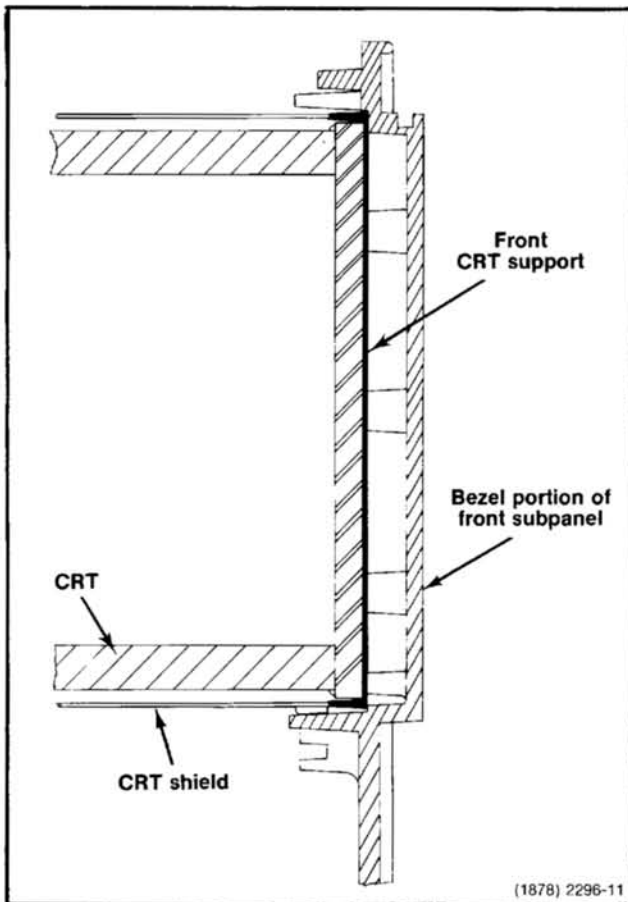

Fig. 5-2. Cross sectional view showing placement position of front crt support, crt shield and crt.
- b. Remove the implosion shield filter (2) and the implosion shield spring (1).
- c. Disconnect the FOCUS extension shaft (3) from the focus potentiometer.
- d. Loosen the black screw (4). Remove the three screws holding the rear panel bracket and remove the rear panel bracket.
- e. Remove the screw (5) holding the horizontal deflection circuit board. Disconnect the two horizontal crt deflection pin leads. Lift the board straight up, disconnecting the square pins at the bottom.
- f. Disconnect the trace rotation coil from the F and I circuit board by removing the two pin connector. Remove the two crt vertical deflection pin leads. Unsnap the anode connector from the circuit board clip (6). Disconnect the crt end (male end) of the anode connector from the remainder of the connector. Momentarily touch the crt end of the anode connector to chassis ground to discharge any voltage.
- g. Remove the two screws (8) that secure the high voltage cover and remove the cover (7). Remove the eight screws (9) holding the rear panel (10) and remove the panel.
- h. Disconnect the crt socket (11); then remove the crt shield with the crt inside. Disconnect the delay line connectors as the tube is removed.
- a. Install the front crt support spacer (12) into the rear bezel opening of the front subpanel (13).
- b. Install the crt in the crt shield; then install the assembly in the oscilloscope and reconnect the delay line. During installation, be careful not to bend the protruding connector pins. Place the crt shield (14) against the front crt support spacer. Push the crt into the front crt support. See Fig. 5-2. Connect the crt socket to the crt. Hold the crt assembly in position and install the rear panel with enough screws to hold the crt assembly in place.
- c. Insert two screws (8) to secure the high voltage cover and replace the remaining screws (9) to secure the rear panel.
- e. Reconnect the anode connector to the connector and snap the anode connector into the circuit board clip (6).